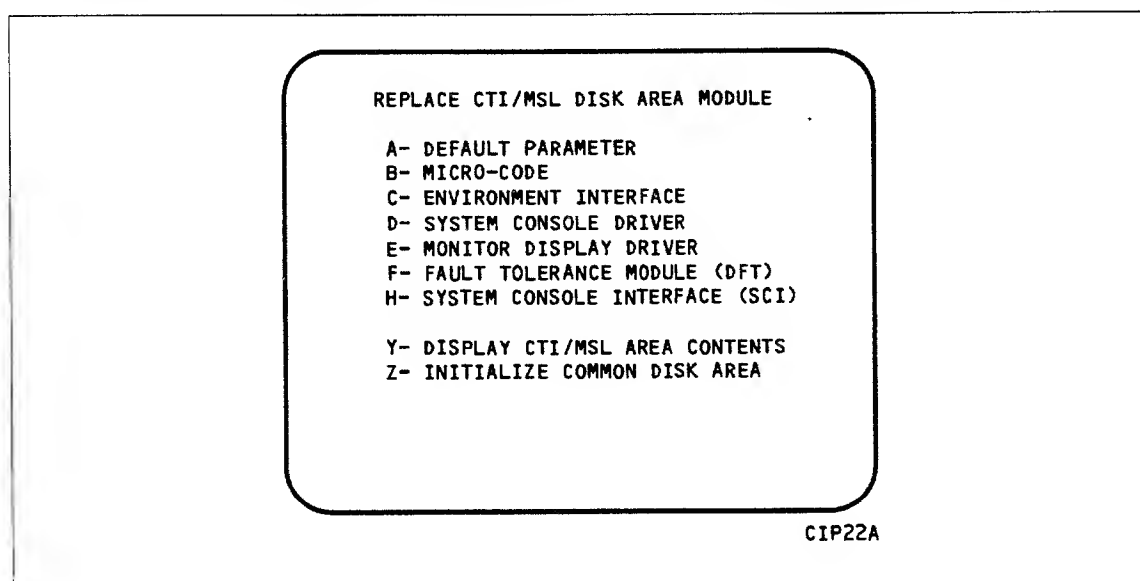

Figure 2-20. Replace CTI/MSL Disk Area Module
Select this option from the MANUAL OPERATIONS display to replace microcode, EI, the CC634B SCD, MDD, DFT, DPB, SCI, or the NOS/VE boot modules, or to initialize the CDA. When option D is selected, you are prompted to enter the disk channel and disk unit numbers. After you enter the channel and unit numbers or press (CR) to accept the default values shown, the REPLACE CTI/MSL DISK AREA MODULE display shown in figure 2-20 appears. Options A through H manually replace CIP modules in the CDA of the CIP device.